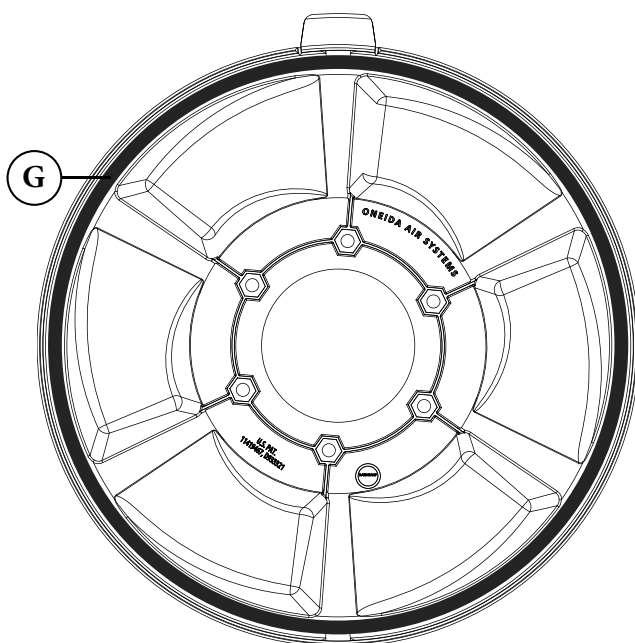

FIG. 2
Apply the Gasket (G) onto the Lid (E) along the underside rim. The Gasket should overlap around the circumference, firmly pressing against itself to avoid air leaks. [FIG. 2]